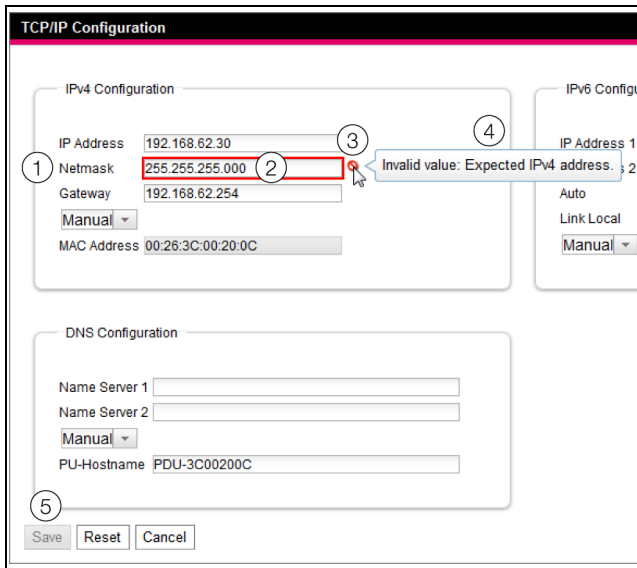

Fig. 43: Display of an incorrect entry
- A red "prohibited symbol" (fig. 43, item 3) appears after the incorrect entry (fig. 43, item 2) in the **Netmask** field (fig. 43, item 1).
- By hovering over the prohibited symbol with the mouse, additional information about the error will appear (fig. 43, item 4).
- The **Save** button is deactivated (fig. 43, item 5), so that the current values cannot be saved.